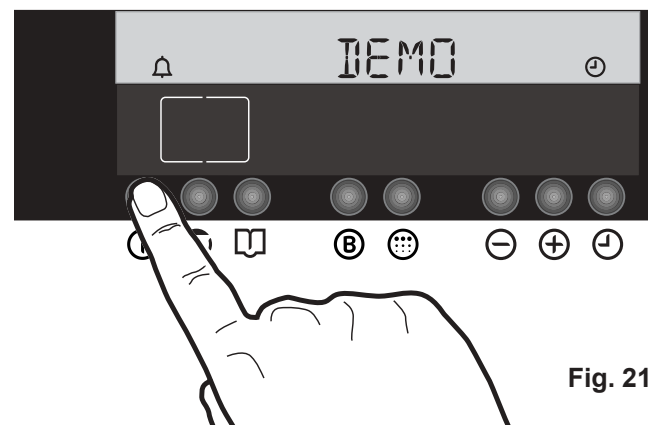

Fig. 21
2. When you press button **1** to switch on the oven, the message "DEMO" appears on the upper section of the display (Fig. 21). You can then select any cooking function, but the oven will not heat up. The thermometer symbol will come on , but it will not flash nor rise.